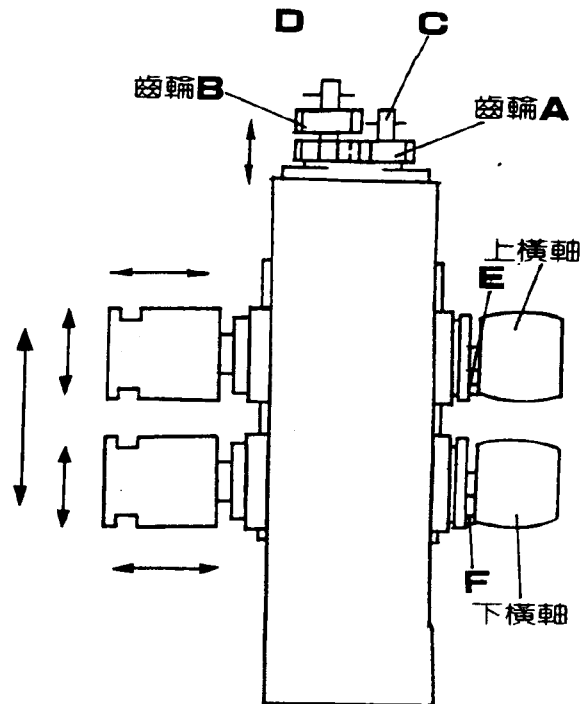

FIG4
## 二、鉤刀上、下、橫軸調整 FIG4
1. 上下位置調整：FIG4
2. 前後位置調整：FIG4
## II. Adjustment of Upper & Lower Cross Axles of Plane Iron: (FIG4)
### 1. Adjustment of Upper and Lower Position (FIG. 4)
### 2. Adjustment of Front & Rear Positions: (FIG. 4)